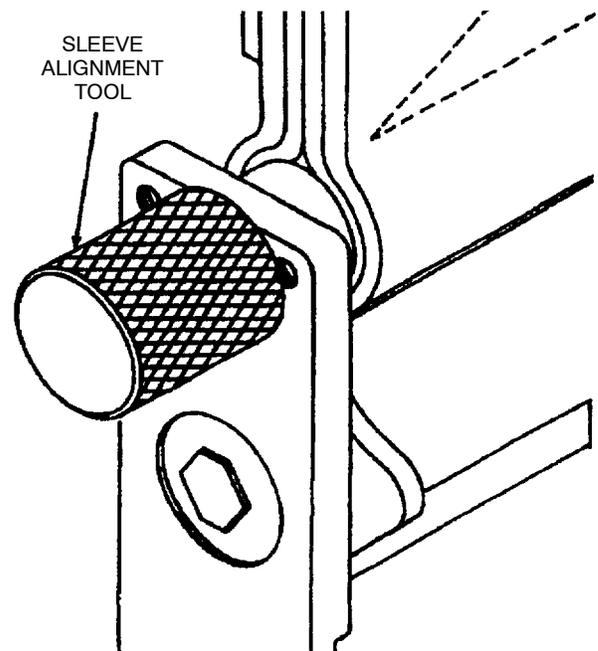

Figure 25. Remove Sleeve Alignment Tool
(3) Remove sleeve alignment tool from canopy release (Figure 25).